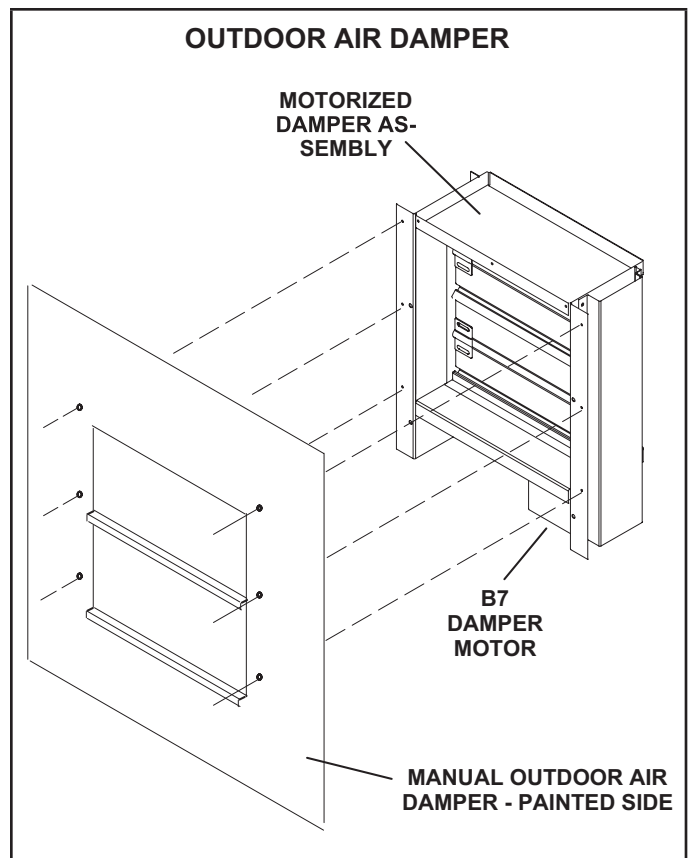

FIGURE 21
See Optional Accessories at the front of this manual (Table of Contents) for sizes per KCB units. Outdoor air dampers may be manually or motor (M) operated to allow up to 25 percent outside air into the system at all times. See FIGURE 21. Washable filter supplied with the outdoor air dampers can be cleaned with water and a mild detergent. It should be sprayed with Filter Handicoater when dry prior to reinstallation. Filter Handicoater is R.P. Products coating no. 418 and is available as Part No. P-8-5069.